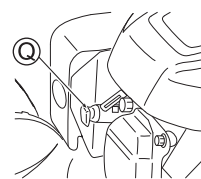

Fig. 30
- Remove Plug cap (Q). (See Fig. 30)